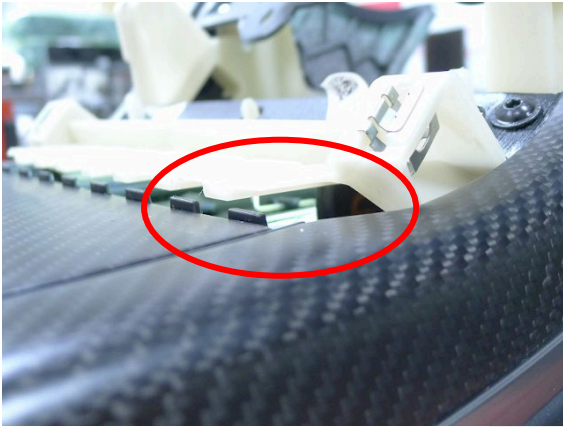

Figure 1 – Look into serrated gap here
3. Use a flashlight to look into the serrated gap of the décor lid to determine the condition of the tang over the décor lid latch pin and if the latch pin is present (Figure 1).